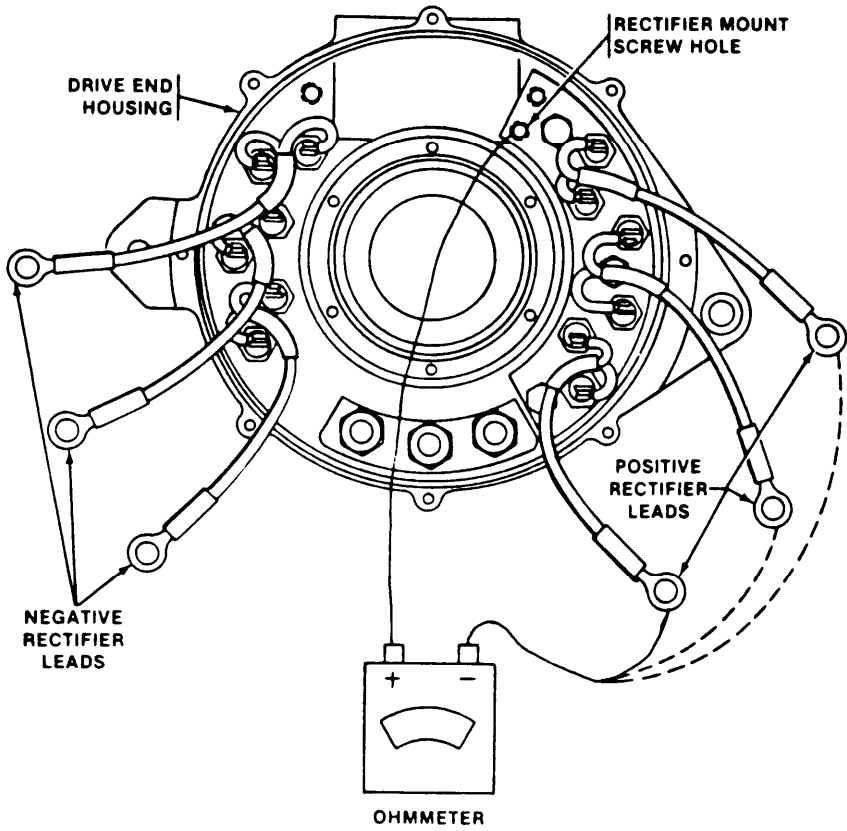

Figure 2-2. Shorted Positive Rectifier Test.
Step 4. Check for shorted positive rectifiers. Connect ohmmeter to each of the three positive rectifier leads in accordance with figure 2-2.